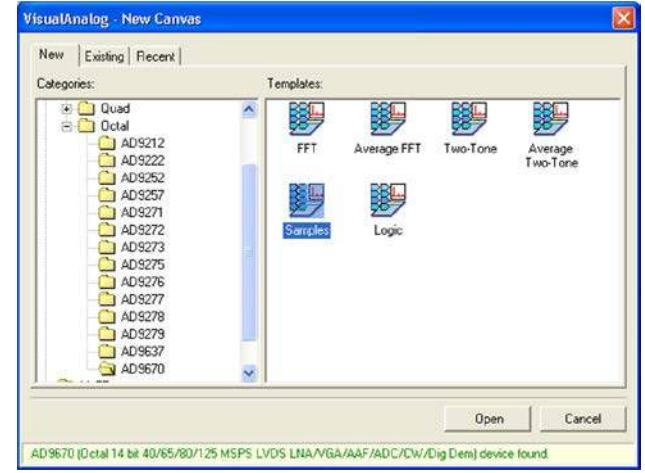

Figure 6. VisualAnalog Canvas Selection Window
8. Launch the VisualAnalog software to use the canvas templates listed in the AD9670 directory in the **Categories** pane (see Figure 6). The **Samples** canvas shows time domain output samples vs. sample count.